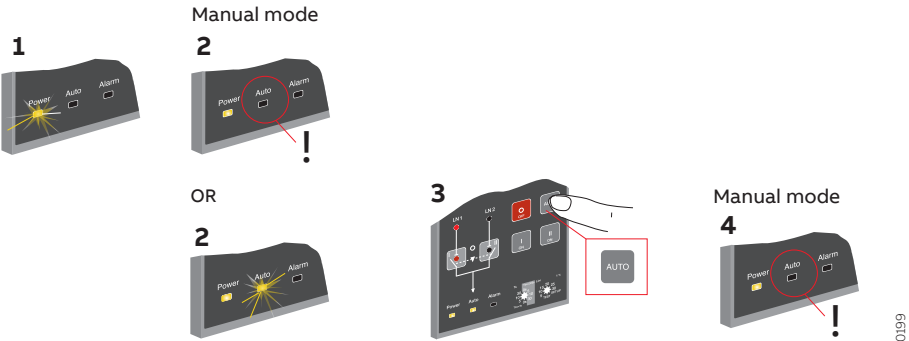

Figure 6.7 Selecting the automatic control unit OMD100 to Manual Mode
1. Set device to MANUAL mode according the Figure 6.7